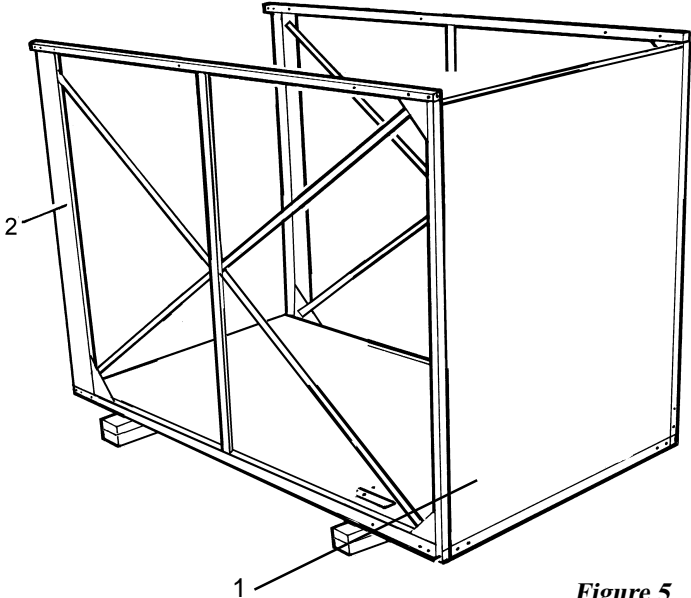

Figure 5
**Step 3:** Insert the bottom panel (Item 1) between the side frames (Item 2) with the folded edges facing up (Figure 5). Loosely secure using Items 3 and 4.